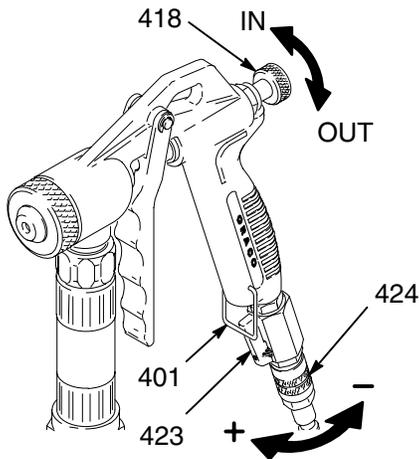

Fig. 13
- Turn the air flow valve (424) to decrease (-).
- Unscrew the fluid knob (418) to increase trigger travel.
**Note:** Maximum trigger travel occurs when trigger bail (401) can hold trigger in open position. Fig. 13.